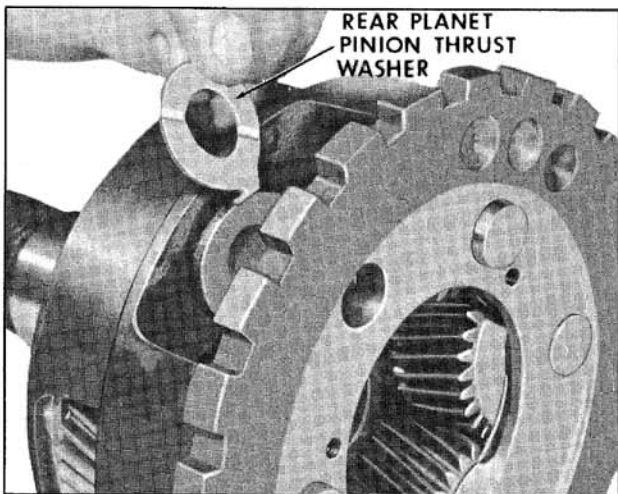

Fig. 6-461 Removing Rear Thrust Washer
11. Remove rear planet pinion thrust washer. (Fig. 6-461)